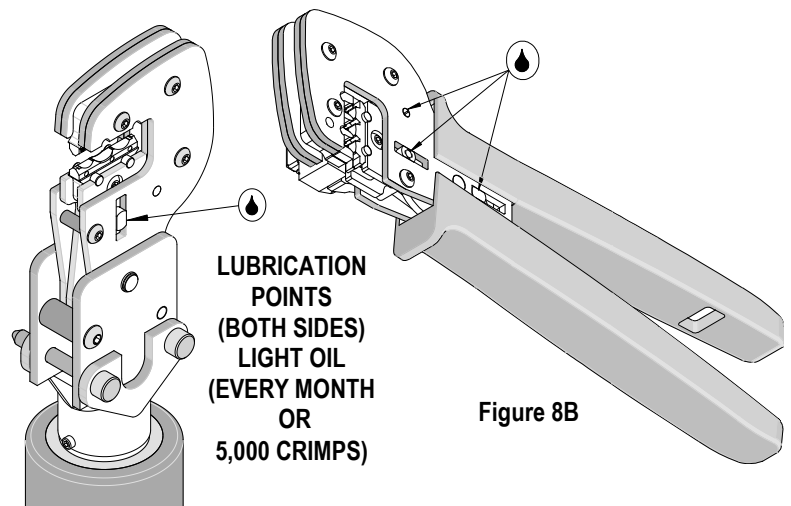

Figure 8A
3. Make certain all pins; pivot points and bearing surfaces in the tool head are protected with a thin coat of high quality machine oil. Do not oil excessively. This tool was engineered for durability, but like any fine piece of equipment, it needs cleaning and lubrication for a maximum service life of trouble-free crimping. The use of a light oil, such as 30 weight automotive oil, every 5,000 crimps or monthly, will significantly enhance the tool life and ensure a stable calibration. See Figure 8A or 8B for lubrication points.